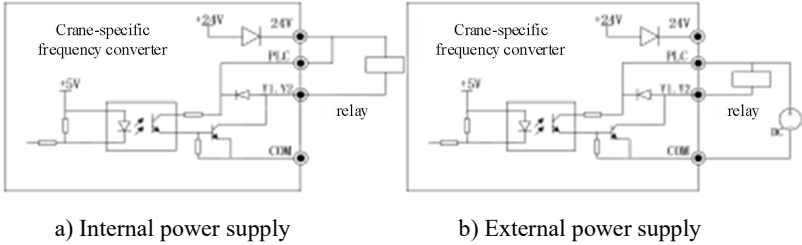

Figure 7-10 Power supply method for multi-functional terminals
(OFF); when the selected function is valid, the electronic switch is on (ON). The open-collector outputs can be internally powered, as shown in Figure 7-10(a), or powered by an external power supply, as shown in Figure 7-10(b). If an external power supply is used, the voltage range is required to be 12–30V.